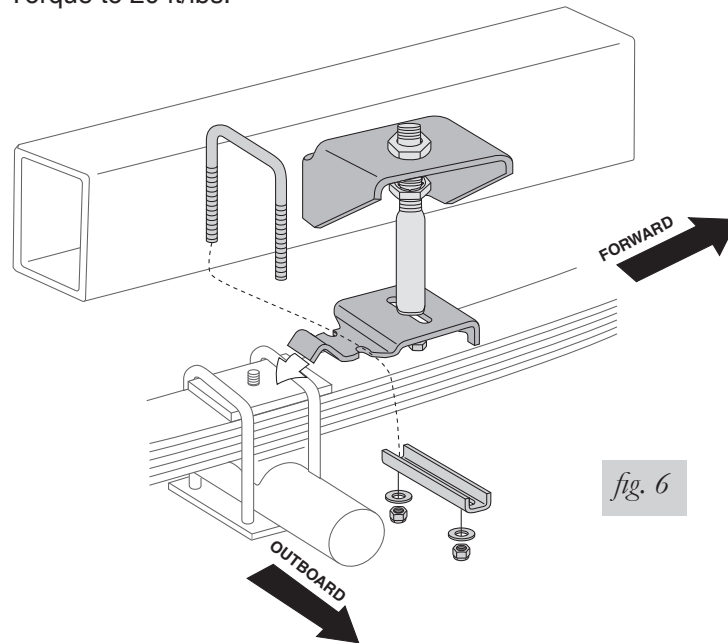

fig. 6
- a. **1987 and older Chevy/GMC 4WD only:** The upper bracket must be installed with the legs of the upper bracket “legs up”. Refer to fig. 6.
1. With the hook end of the lower bracket placed over the stock u-bolt (fig. 6), secure the lower bracket to the leaf spring with the provided u-bolts, clamp bar, flat washers and lock nuts. Torque to 20 ft/lbs.